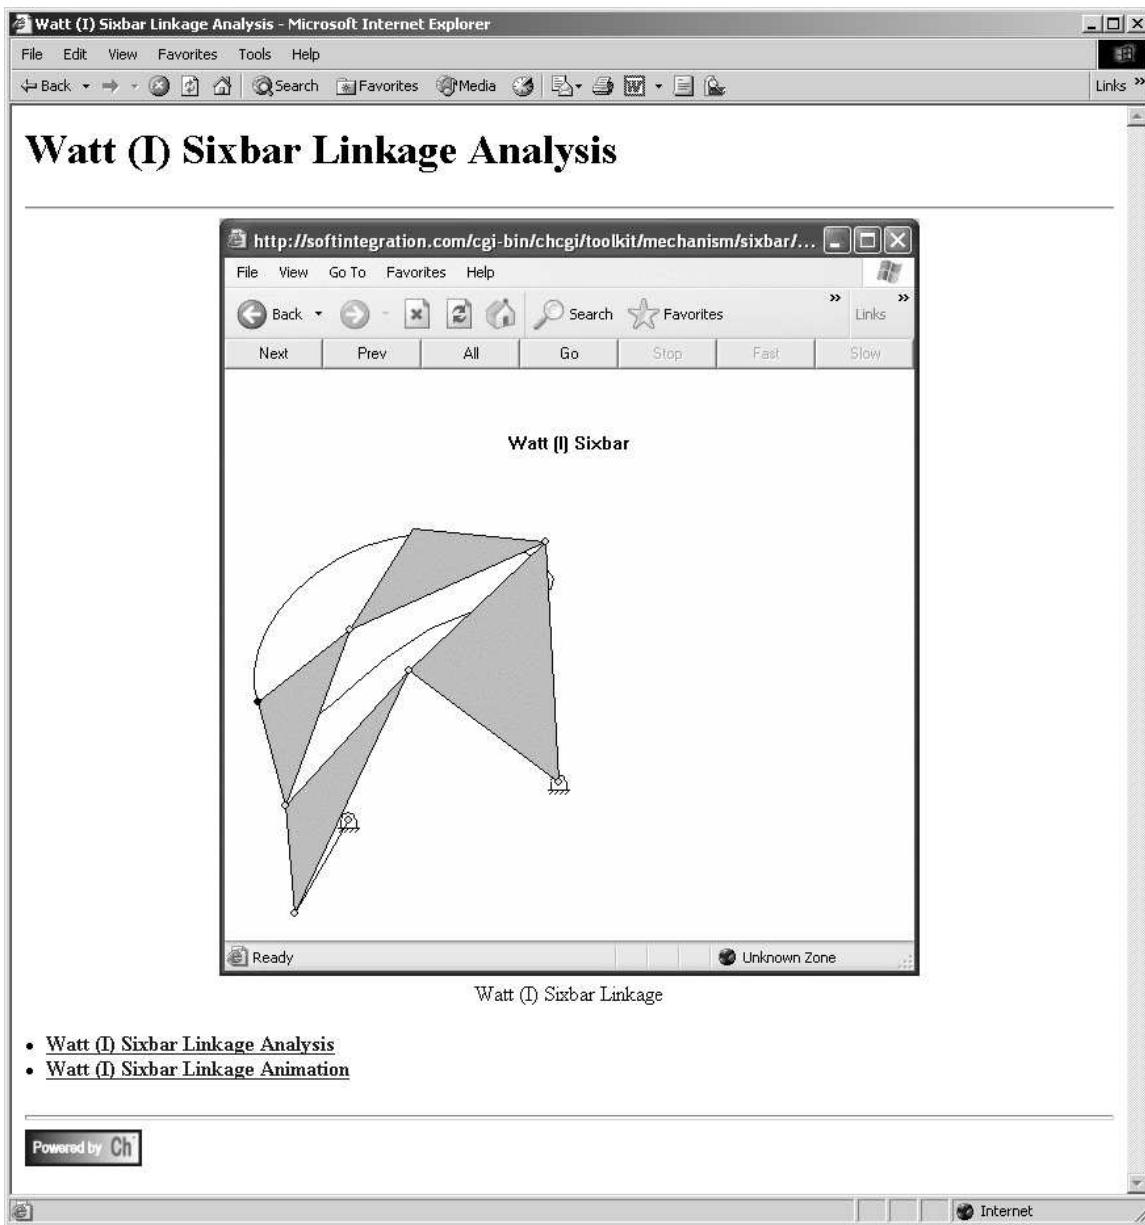
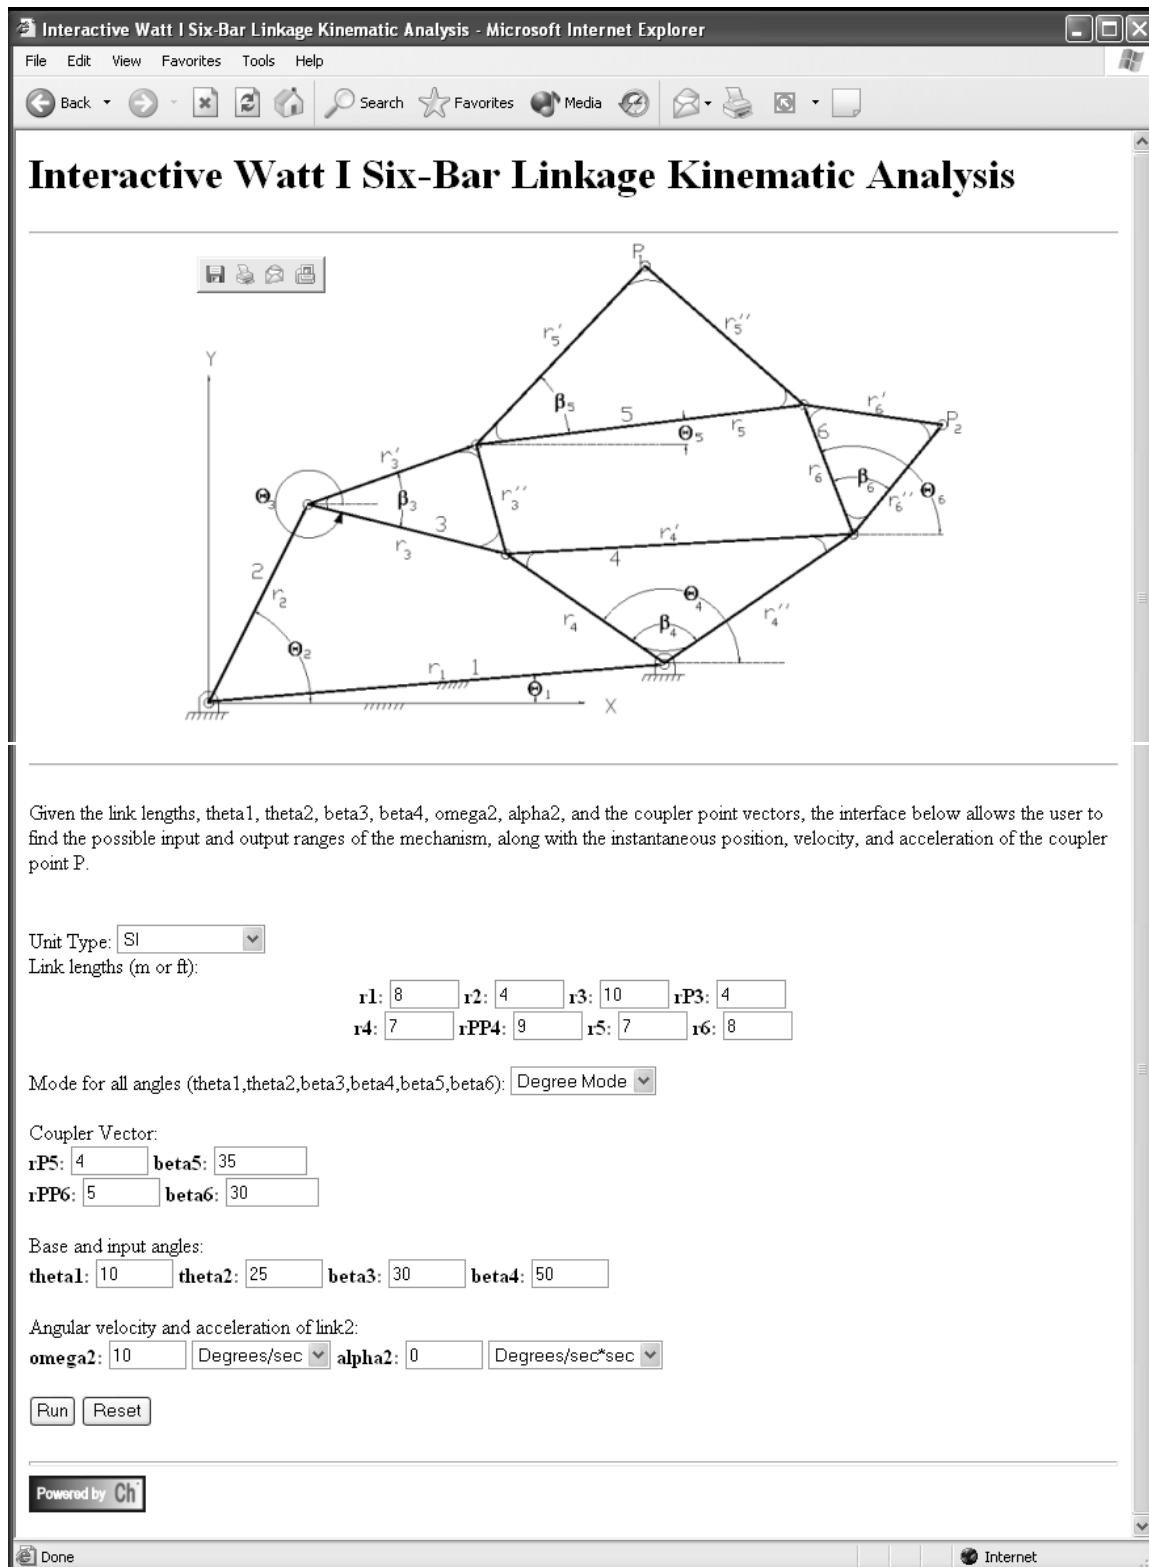

Figure 5.9: Main web page for Watt (I) sixbar analysis.
Figure 5.10: Web page for Watt (I) sixbar kinematic analysis.
All the analysis methods discussed in the previous sections for the Watt (I) sixbar linkage can be performed with a couple of interactive web pages. Figure 5.9 shows the main web page for web-based analysis of the Watt (I) sixbar linkage. The web page shown in Figure 5.10 can be used to calculate the angular properties of links 3-6 of the Watt (I) sixbar. Also, the position, velocity, and acceleration values can be determined for the coupler point(s) associated with link(s) 5 and/or 6. For example, consider the Watt (I) sixbar linkage defined in previous problems. By entering the given values for the link lengths, θ_1 , β_3 and β_4 , coupler point properties, and angular properties of the input link, link 2, the output of running the web-based analysis is shown in Figure 5.11.